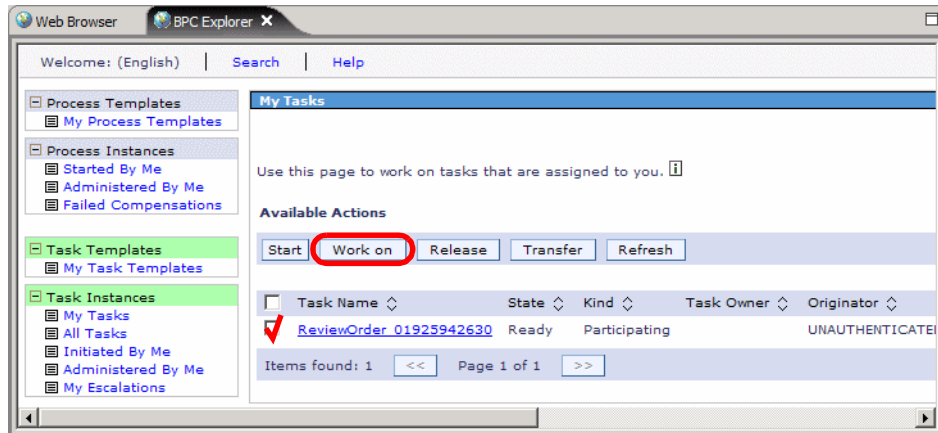

Figure 9-46 BPC Explorer with custom JSPs
- ▶ The BPC Explorer opens with the My Tasks view and the ReviewOrder activity is visible (Figure 9-46).